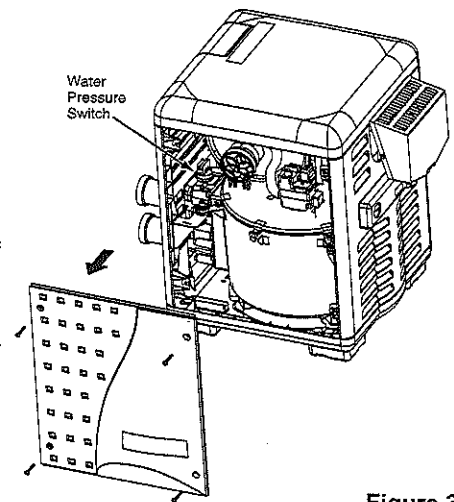

Figure 36.
5. Remove the access door panels by unfastening the four screws located on each door, then lift up and out from the bottom of the panel to remove. If necessary, the screws may be used as handles, see **Figure 36**.
3. Remove the access door panels, see **Figure 36**.